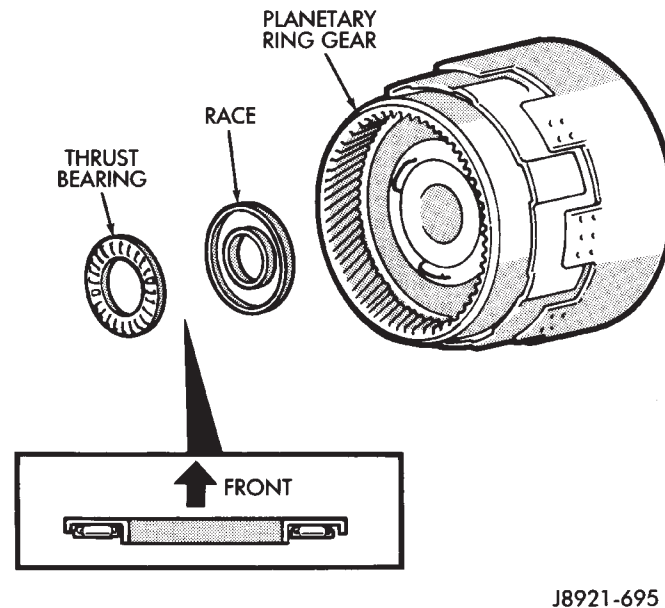

Fig. 28 Installing Ring Gear Bearing And Race
(35) Coat bearing and race with petroleum jelly and install them in ring gear (Fig. 28). Verify bearing/race size.